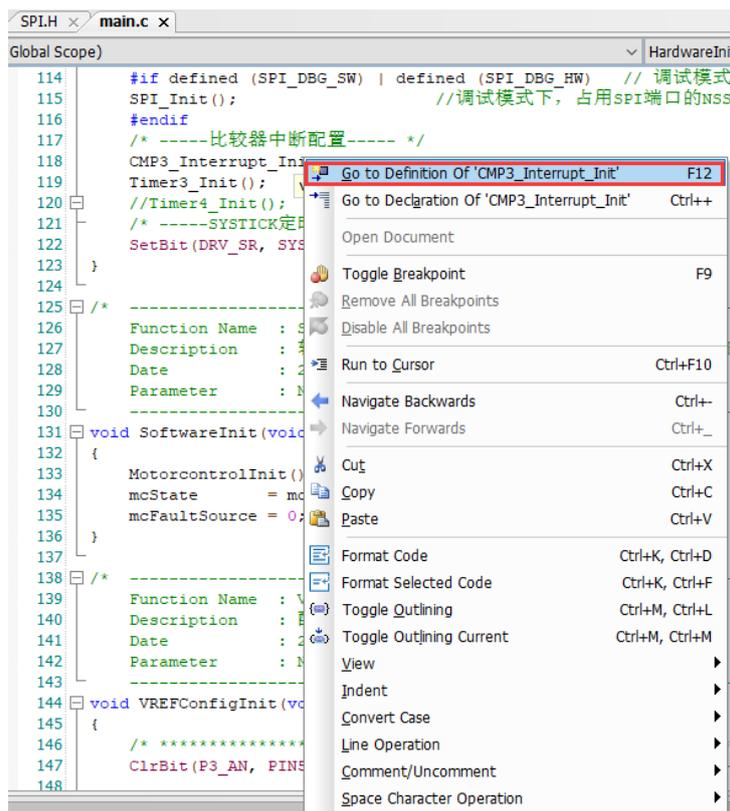
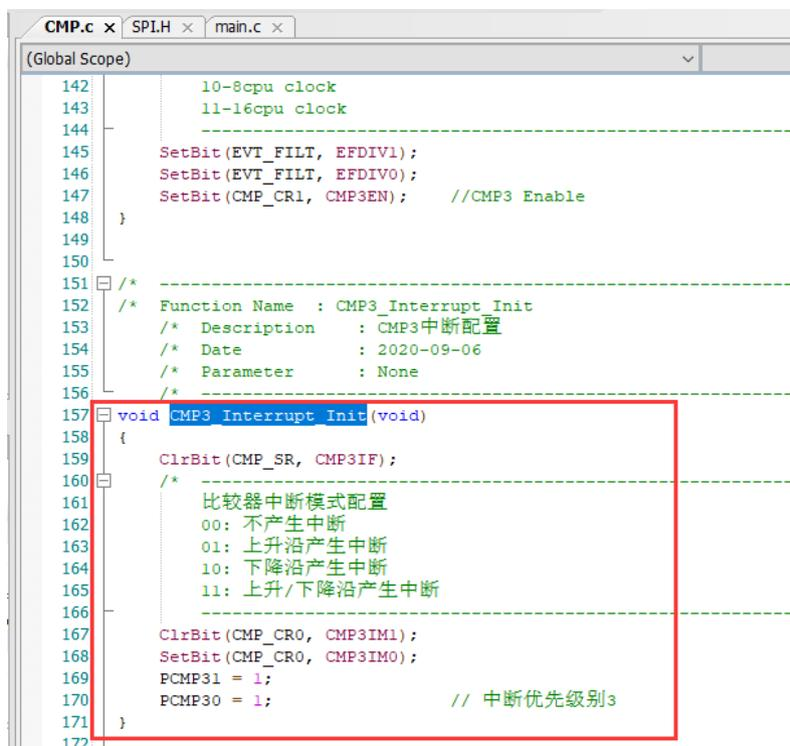

Figure 3-1
Figure 3-2
15. Jump to a function definition. You can move the mouse onto a function, right click and select "Go to Definition Of 'XXX'" to jump to the definition of the function. As shown in Figure 3-1, right click and select "Go to Definition Of 'CMP3_Interrupt_Init'" to jump to its corresponding function definition, as shown in Figure 3-2.